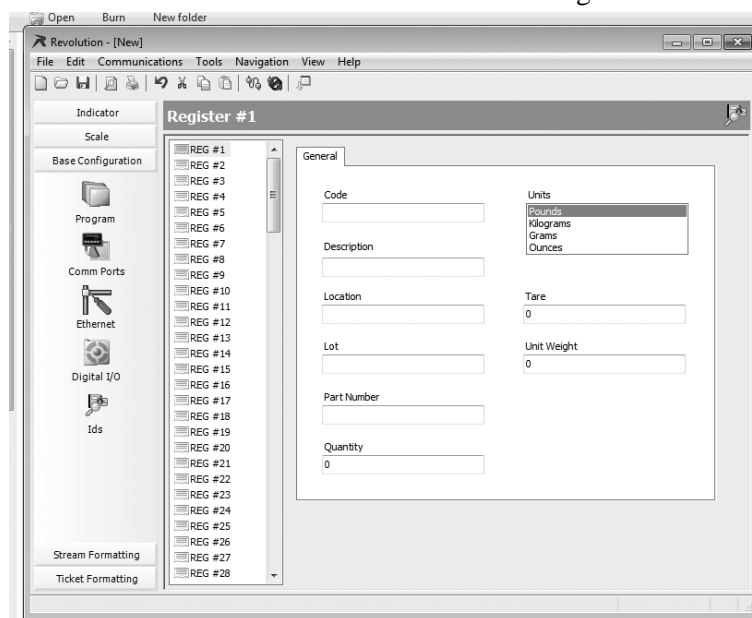

Figure 5-2. Adding IDs Through Revolution
7. Select REG # and add information into the screens as shown in Figure 5-2.